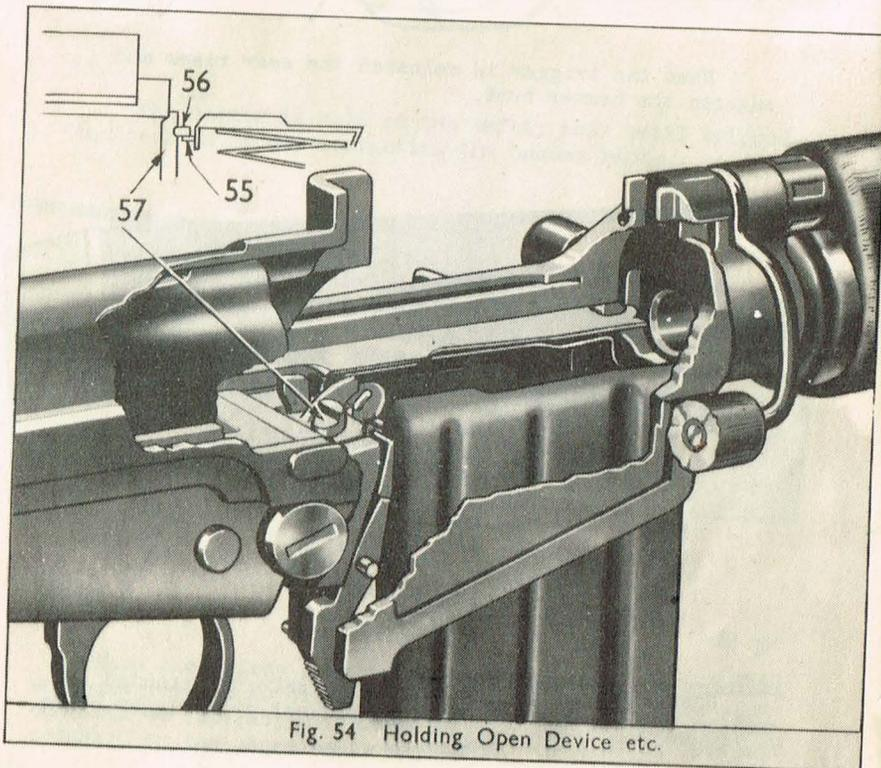

Fig. 54 Holding Open Device etc.
When the last round has been fed out of the magazine, (fig.54) the platform rises under the action of the magazine spring. The rear projection on the platform (55) engages the stud (56) on the pillar (57) of the holding open device and forces it upwards.